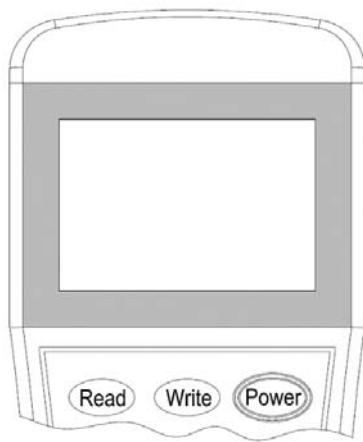

Figure 9
2. Switch-on the programmer, then press button **"3"** to enter to **Configuration mode** (Figure 9).